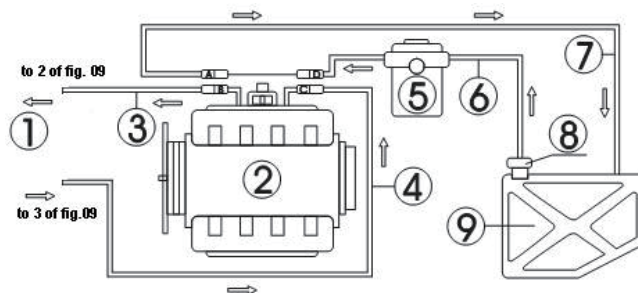

Fig.09
The hose line connection of the engine with return hose is shown as in Fig.09.
- Disconnect the connections of fuel supply hoses (C、 D) and fuel return hoses (A、 B) of the engine fuel system (wrap the connector with towel when disconnecting the connector). Choose proper connectors and connect them to the B end and C end separately, and then connect the other ends to corresponding return hose and outlet hose of the unit. See Fig.09.